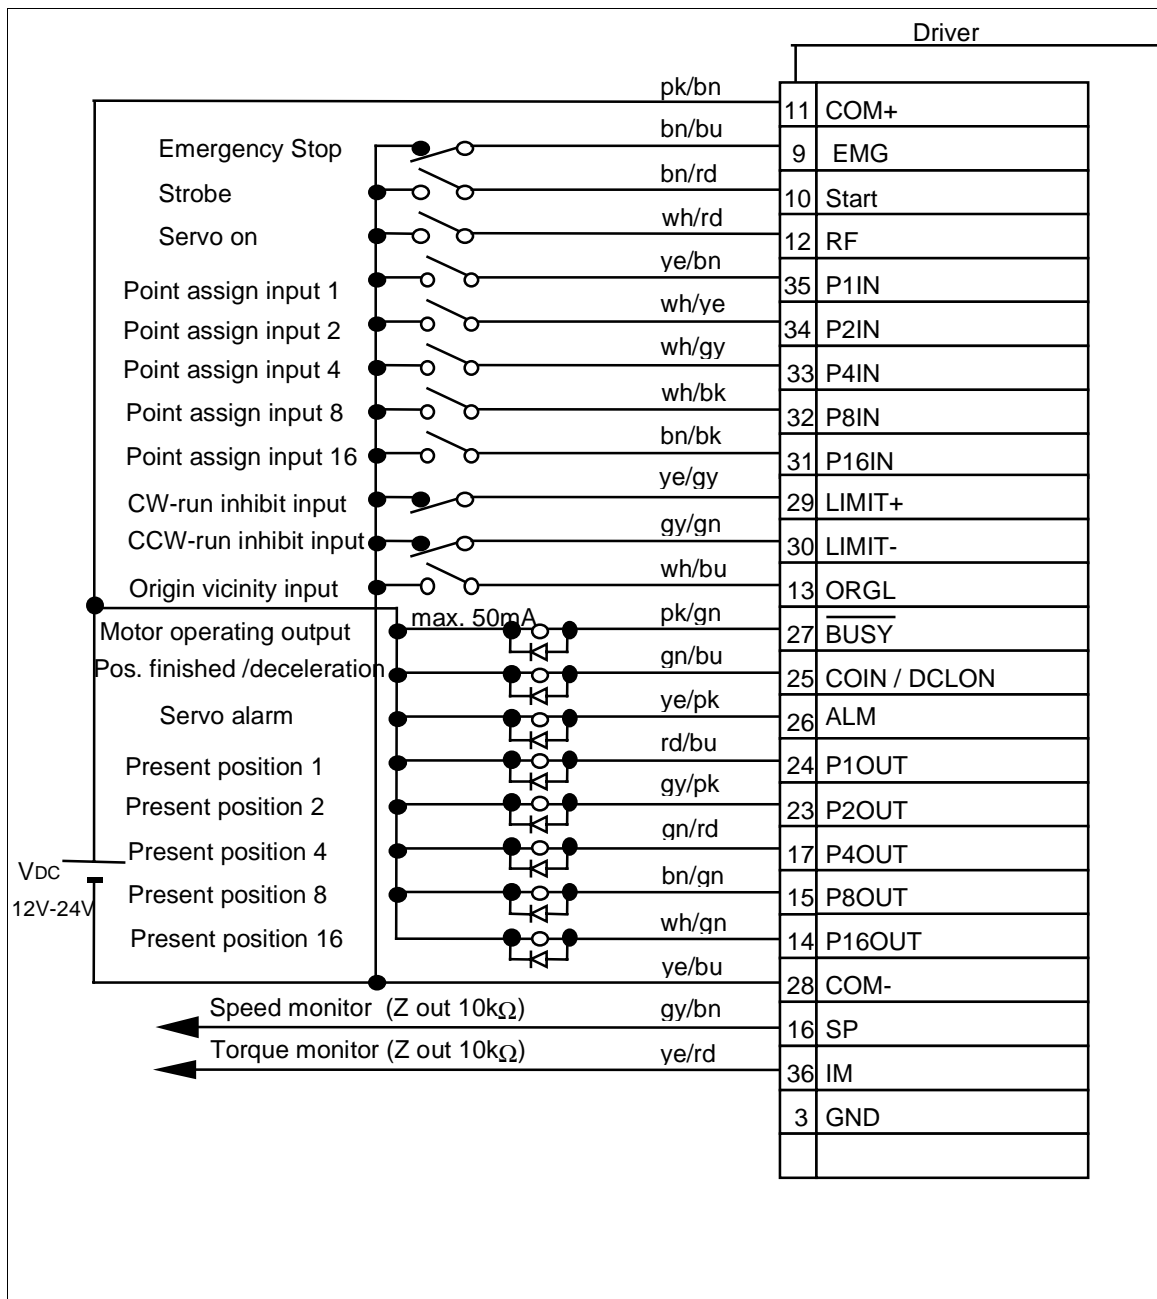

Fig. 3-2 Wiring example to connector I/F
- (1) For wiring, refer to Fig. 3-2 "Wiring example to connector I/F".
- (2) Prepare a control signal power supply of DC 12-24V - /0,5A for external control, which is to be connected between COM+ and COM.
- (3) Install the position driver and the peripheral equipment within 3m in to shorten the wiring.
- (4) Separate this wiring from the power lines (R,S,T,U,V,W, ) 30cm or more. Do not pass through the same duct and do not bind together, to prevent error.
- (5) Do not apply more than DC24 V, 50mA to each terminal of the control output (BUSY, ALM, COIN/DCLON P1OUT - P16OUT), nor do not apply voltage in reverse polarity. It may damage the position driver.